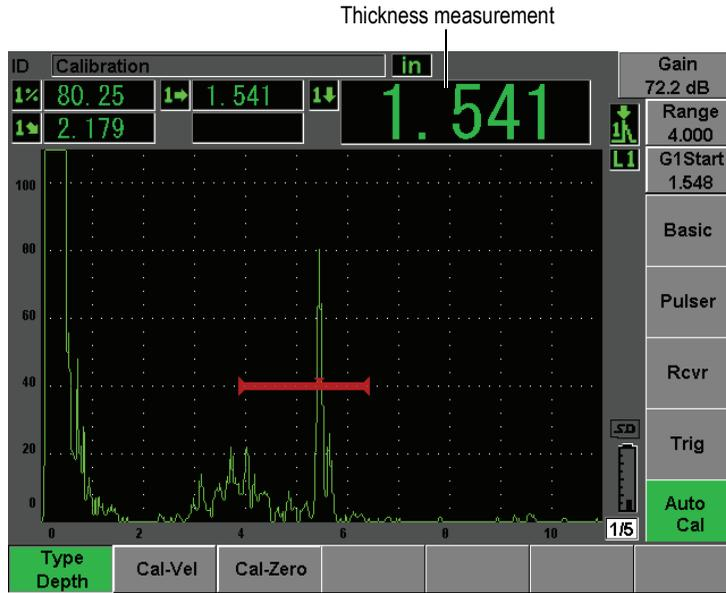

Figure 10-26 Example of a gated signal for zero calibration
4. Use the [**GATES**] key to position gate 1 so that the reflection from the first side-drilled hole is exceeding the gate threshold. This reflection should be close to 0.5 in. (12.5 mm) [see Figure 10-26 on page 185].